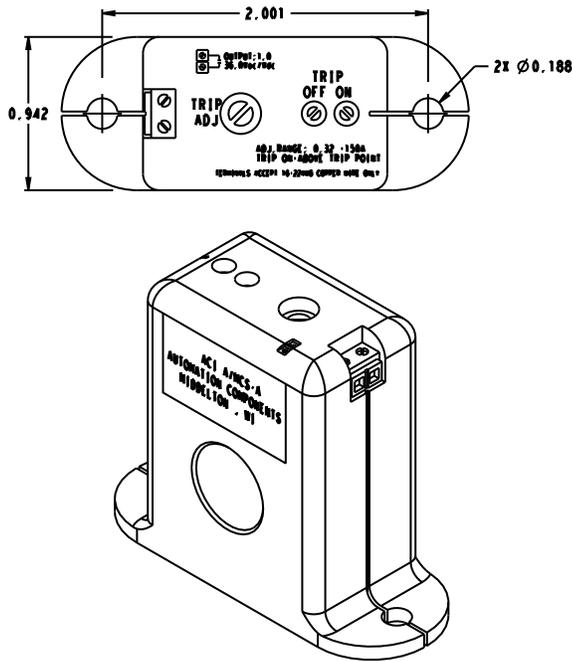

Fig. 20 – Fan Status Switch
2. If the Blue LED is on, slowly adjust the potentiometer (labeled as “TRP ADJ” in Fig. 20) clockwise until the RED LED just turns on and stop immediately. The trip point is now set at the normal operating load current.